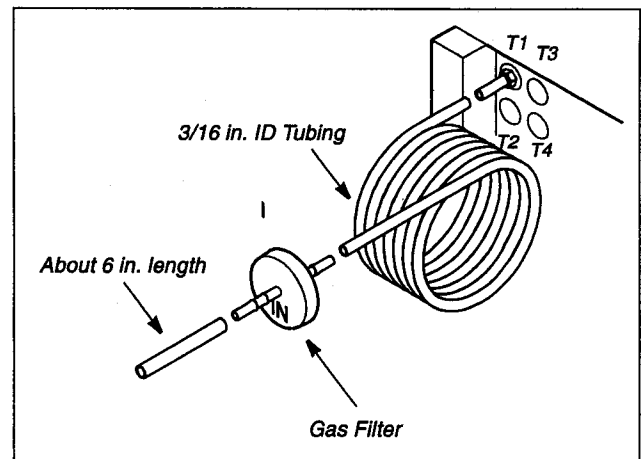

Figure 6. Gas Connections
2. Cut a small length (approximately 6 in.) from the supplied roll of 3/16 in. ID tubing and attach to the side marked "IN" on a high-quality input gas filter (refer to Figure 6). A 0.3 micron filter is supplied with the incubator.
4. Attach one end of the roll of tubing to the gas filter opposite the "IN" fitting, as shown in Figure 6.
In both case, hook up the gas connections in a similar way to the CO₂ connections described in Section 5.8. Use connections T3 and T4 as shown in Figure 6. The right connections to use will be shown in the display prompts.